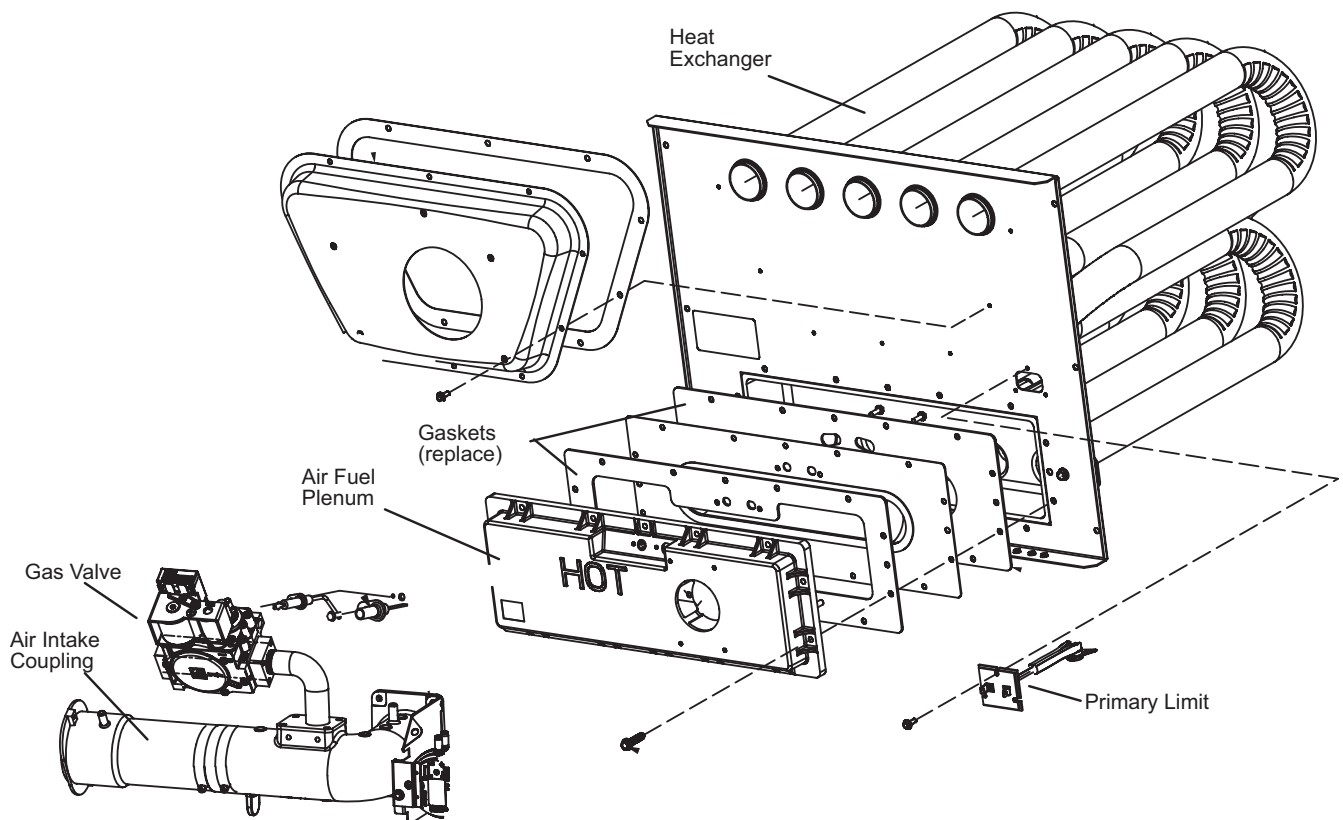

Figure 31. Heat Exchanger and Burner Removal
10. To clean burner, remove from the air gas plenum and run a vacuum cleaner over the face of burner. Visually inspect inside the burner for any blockage caused by foreign matter. Remove any blockage. **Figure 31** shows burner detail. Replace gasket between burner plate and air fuel plenum then re-install burner plate.